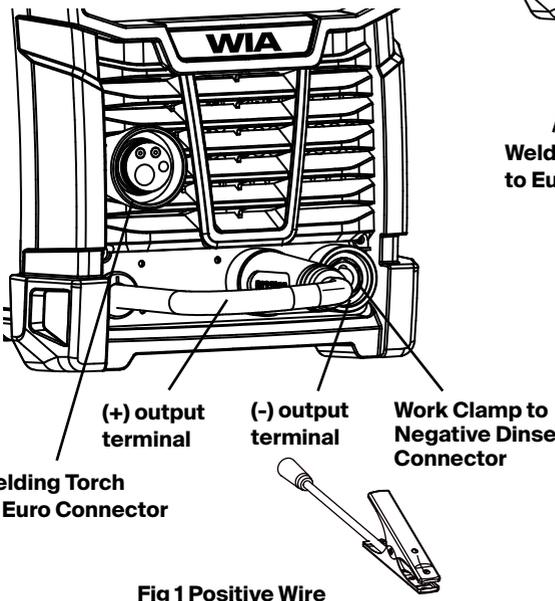

Fig 1 Positive Wire
Wirefeed speed is adjusted by Knob in Figure 1 (11). The wirefeed speed determines the welding current; increasing the speed increases the current, and decreasing it decreases current.